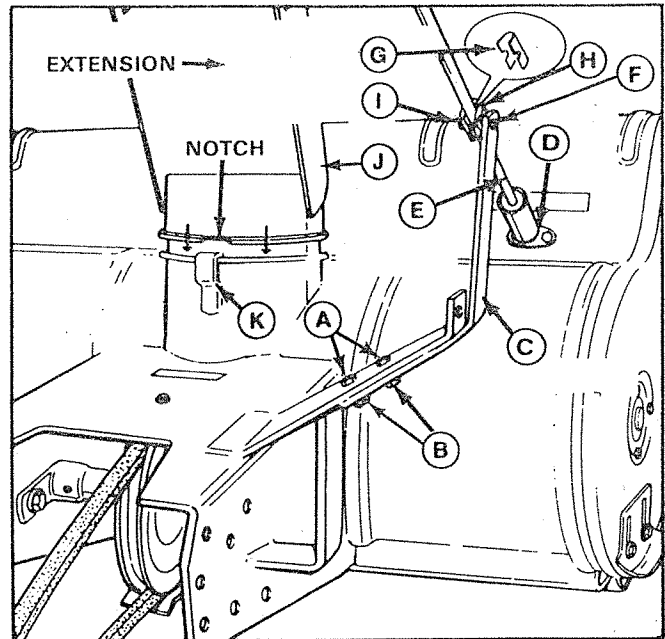

Figure 16. Installing Spout Control
1. Install support bracket (C, figure 16) as shown with nuts  $3/8 \times 1$  inch (9.5 x 25.4 mm) capscrews and flange locknuts (A & B).
2. Insert end of spout control rod (E, figure 16) through plastic pivot bearing (D) on auger housing. Install a  $3/32 \times 5/8$  inch (2.4 x 16 mm) cotter pin in the lower rod hole on the inside of the housing, and spread cotter pin legs fully around rod. Pull the rod back so cotter pin is up against pivot bearing and install another cotter pin through the rod just above the bearing. Spread cotter pin legs fully around the rod.
3. Place the thin plastic liner (G, figure 16) inside the rod guide (H).
with a  $5/16 \times 1-1/8$  inch (10 x 28.5 mm) capscrew and a locknut (F & I, figure 16). Tighten locknut (usually flush with end of capscrew) so control rod is held firmly but is still free enough to turn inside of rod guide.
5. Install the spout extension (J, figure 16) on the housing opening so the clip (K) on the housing is positioned in the notch on the spout extension. Then rotate spout extension slightly to start its rim under the clip. Oil mating surfaces so spout extension rotates freely.